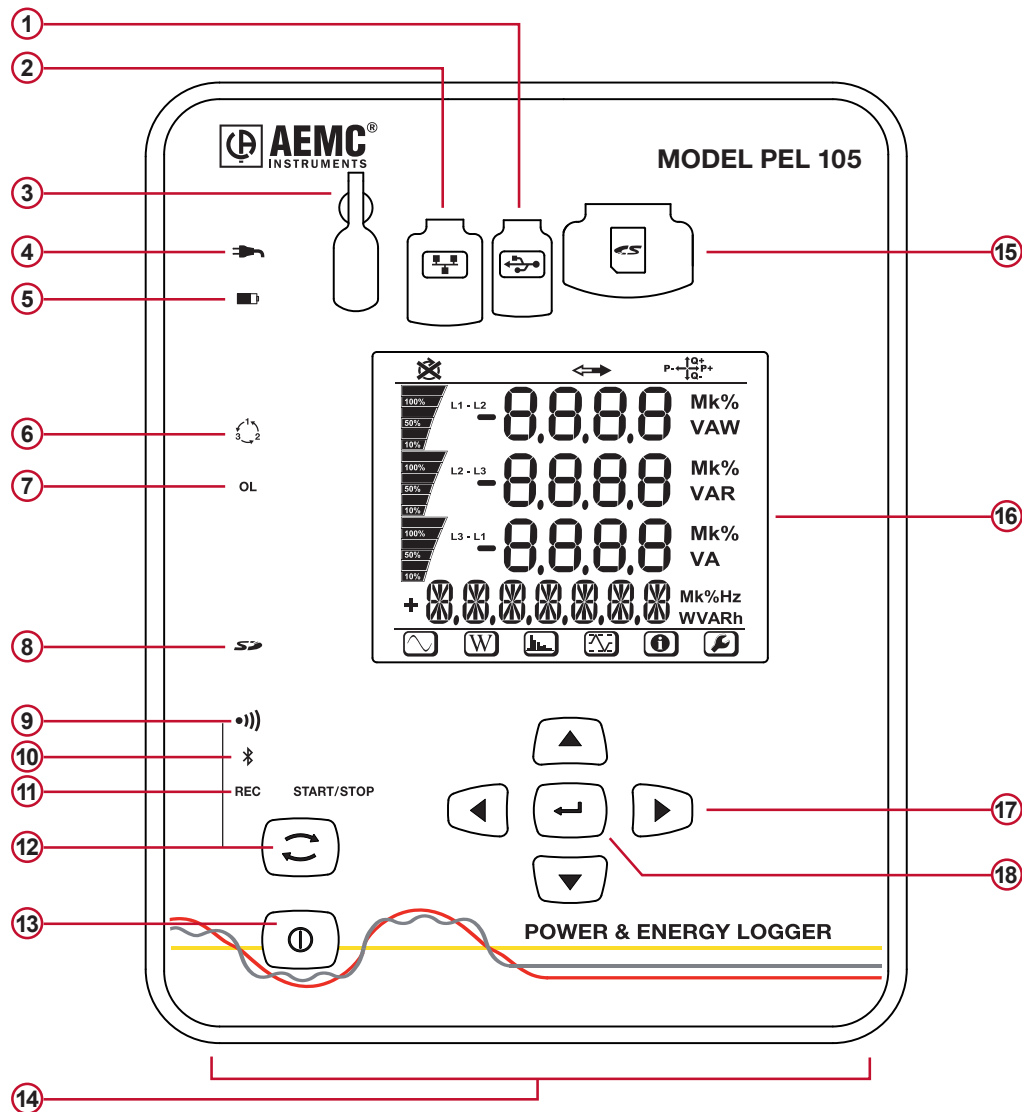

Figure 1
On the left side of the front panel is a vertical row of LEDs (see Figure 1) which provide the following information:
1. Locate the card slot on the front panel (see Item 15 in Figure 1).